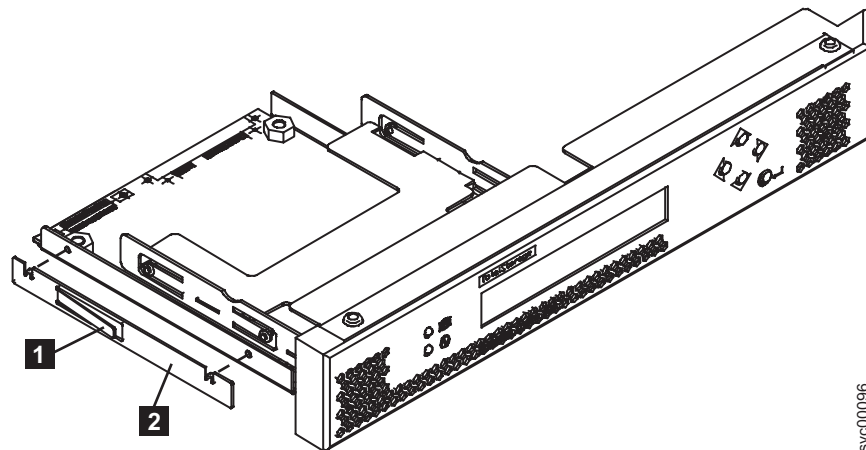

Figure 91. SAN Volume Controller 2145-8F2 or SAN Volume Controller 2145-8F4 service controller
1. Place the retention clip (2 in Figure 91) over the locating holes on the left side of the service controller.